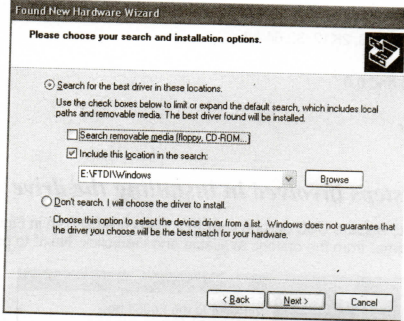

Figure 3
3. Select "Search for the best driver in these locations" and enter the file path in the combo-box ("E:\FTDI\Windows" in Figure 3 below) or browse to it by clicking the browse button. Once the file path has been entered in the box, click next to proceed.